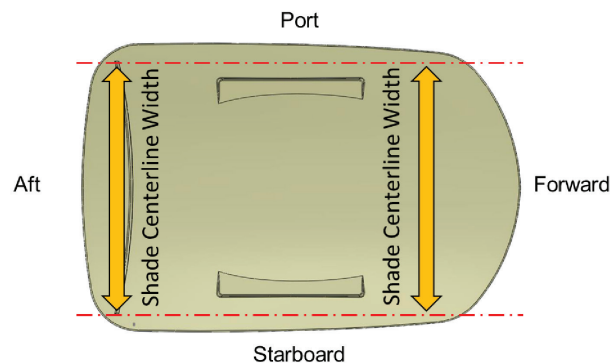

Fig.5
4. To verify centerline measurements, measure the distance from the port side to the starboard side at the forward and aft sections (**Fig.5**) to make sure marks are parallel. These measurements should be the same as the shade centerline width provided on the shade specification drawing.